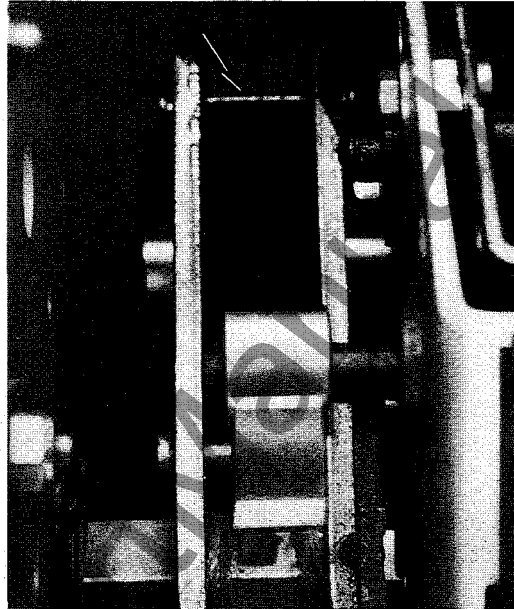

Figure 40: Mechanism main link
3. Disconnect the mechanism main link (figure 40) from the mechanism operating arm by removing the spring clip and pin behind the main operating mechanism.
7. Reconnect the mechanism main link to the mechanism operating arm, using the pin and spring clip (figure 40).